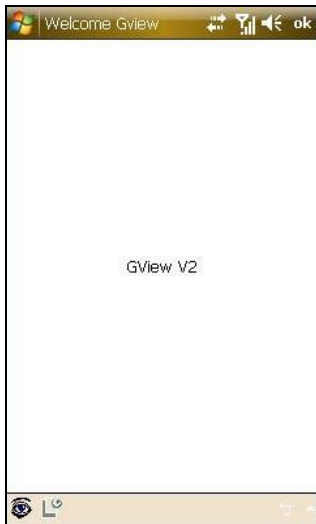

Figure 10-1
3. Click the  button located at the lower left corner (Figure 10-1). The login screen appears.